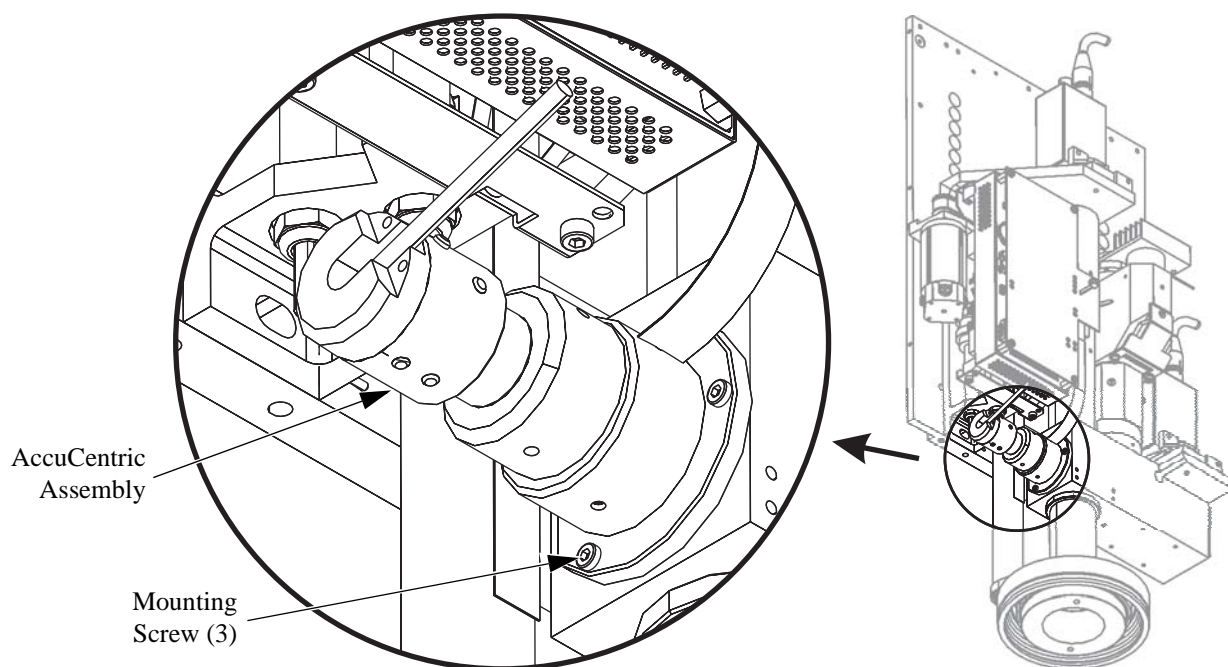

Figure 9-8 Location of the AccuCentric Assembly
2. Remove the front cover by lifting it straight up. The AccuCentric assembly is located on the left side of the optics (see Figure 9-8).